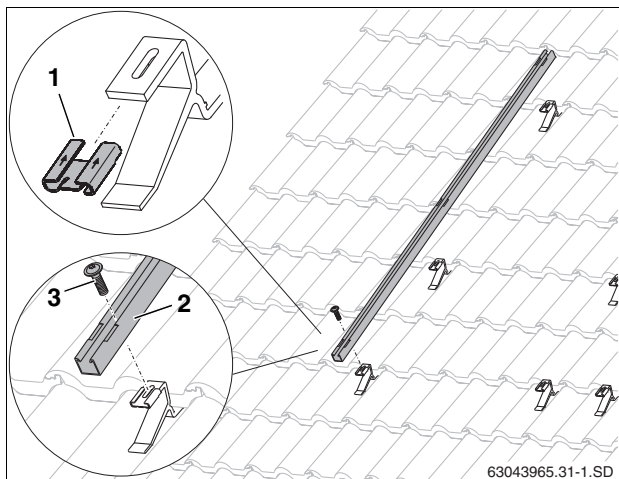

Fig. 26 Attaching the vertical rails
- ▶ Push threaded clip (Fig. 26, [1]) onto the roof hook in the direction of the arrow.
- ▶ Place the vertical rail (Fig. 26, [2]) onto the roof hooks and tighten the M8 screws (Fig. 26, [3]).